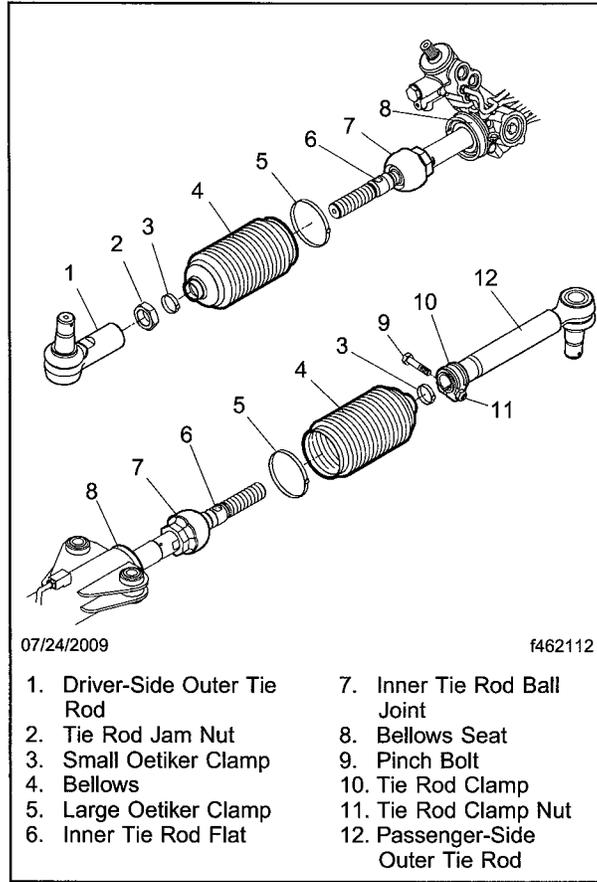

Fig. 8, Tie Rod and Bellows Assembly
- 2.2 On the driver's side, loosen the jam nut. See **Fig. 8**, Item 2. Note the number of exposed threads and the position of the outer tie rod to ease installation.
5. Disconnect the outer tie rods from the inner tie rods. If necessary, use a backup wrench on the inner tie rod flat to turn the inner tie rod. See **Fig. 8**, Item 6.
- 17.1 Loosen the driver-side tie rod jam nut. If necessary, hold the inner tie rod in place with a backup wrench on the inner tie rod flat. See Fig. 8, Item 6.